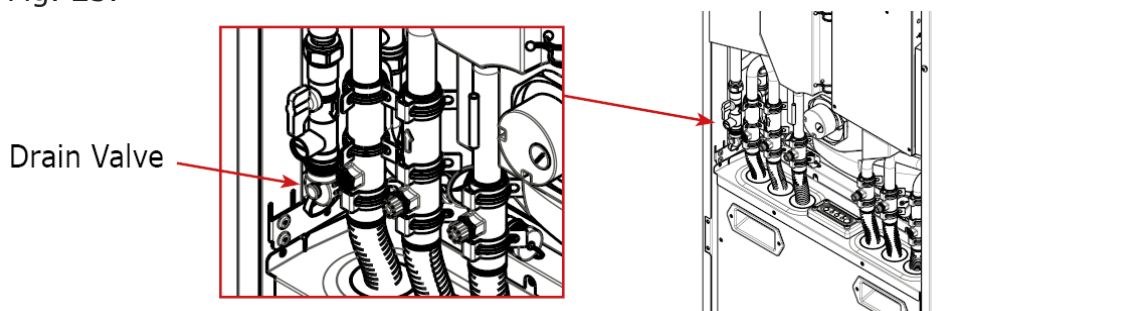
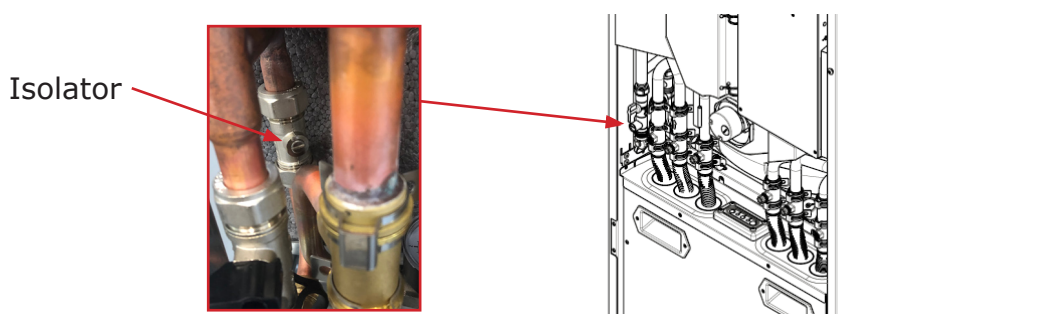

Fig. 24 : Drain Valve
Fig. 25 : Isolator
5. Connect a hose pipe from a suitable drainage point to the drain valve shown in Fig. 24. Using a screw driver, open the isolator to start the flow of water from the cylinder, see Fig. 25.
4. Connect a hose from a suitable drainage point to the isolator valve shown in Fig. 25. Open isolator shown in Fig. 28 to allow flow of water from the coil.